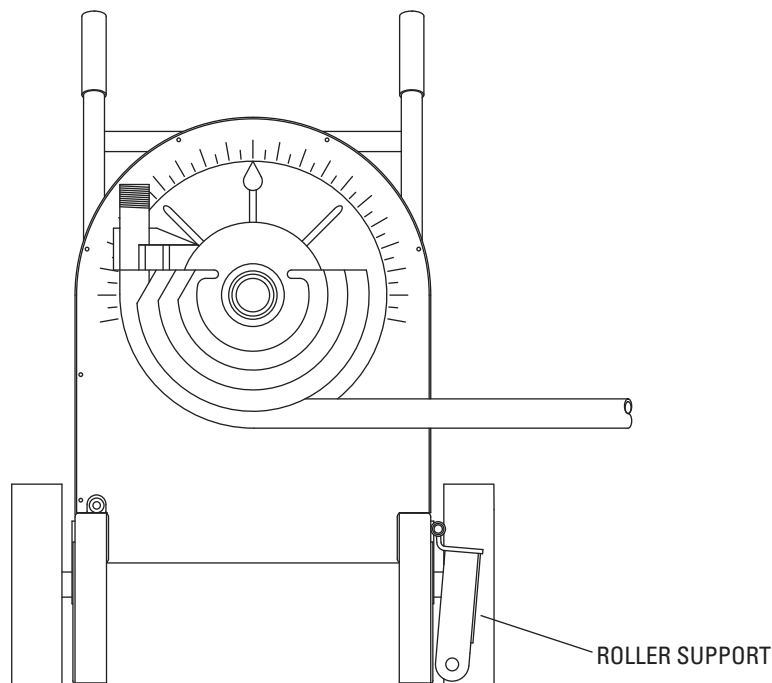

Figure 9
4. Using the remote pendant, place the "Bend/Unload" switch in the "bend" position. Press the "Jog" button and advance the bender shoe. Be sure to check the alignment of the bending mark as the rotating shoe locks the pipe/conduit into position. Advance the bender shoe to desired degree of bend. When the arrow on the shoe reaches the desired degree of bend, release the "Jog" button and the bender will stop. See Figure 9.
5. To release the pipe/conduit, place the "Bend/Unload" switch in the "Unload" position. Press the "Jog" button and reverse the shoe far enough to release the conduit. Then, rotate the roller support out of the way. See Figure 9. The pipe/conduit can now be removed.